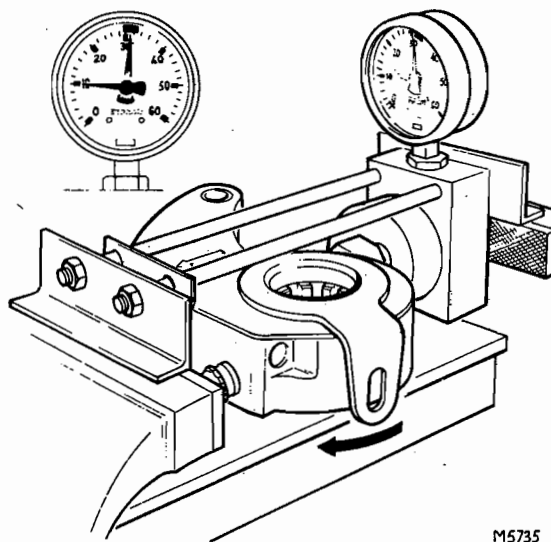

FIG. 7 PRE-STRESS LOADING THE AUTOMATIC SLACK ADJUSTER IN SAB TOOL
To ensure correct operation of the slack adjuster, the spring assembly must be pre-stress loaded to 400 kgf (885 lbf) using special tool 407, see Fig. 7.
2. Position the slack adjuster in tool, ensuring the adaptor (009 or 021) locates in the rear screw cover and that the hexagon head of the worm screw is locked in position by the moveable plate, see Fig. 7.